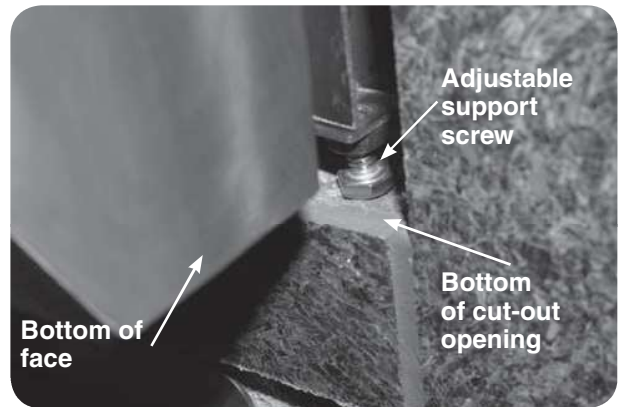

Fig. 18-1 Adjust support screws
6. Rotate the adjustable support screws to the left to raise and to the right to lower the respective side of the appliance grill. Use a $\frac{7}{16}$ " open-end wrench as needed. See Fig. 18-1.